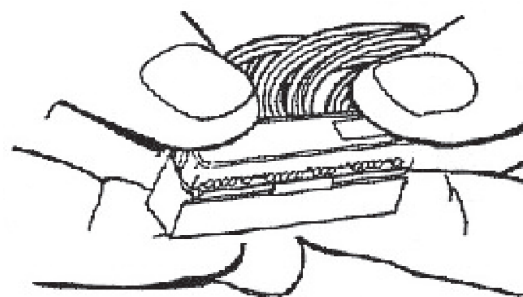

Figure 4
5. For protective cover – remove the paper liner, align the cover latches with the body slots and push cover down firmly until the cover latches are in place. (Figure 4)